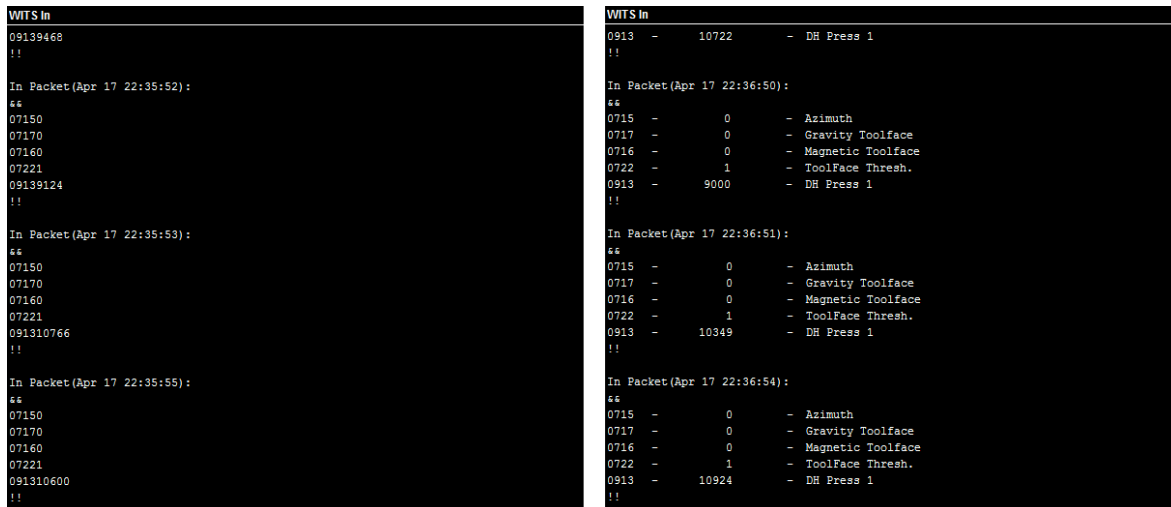

Figure 20: WITS monitor raw data (left) versus interpreted data (right)
Starting in EDR version 14.12, the EDR includes a WITS monitor (Figure 20). The WITS monitor is a simple diagnostic tool included in the EDR on every Pason Workstation. It's intended for rig personnel who have a good understanding of WITS and packet communications. Use it to troubleshoot WITS issues at the rig.
4. Select **Raw** or **Interpreted** in the Format box. The Raw format gives you only WITS packet information; the Interpreted format adds more detail as shown in Figure 20 below.